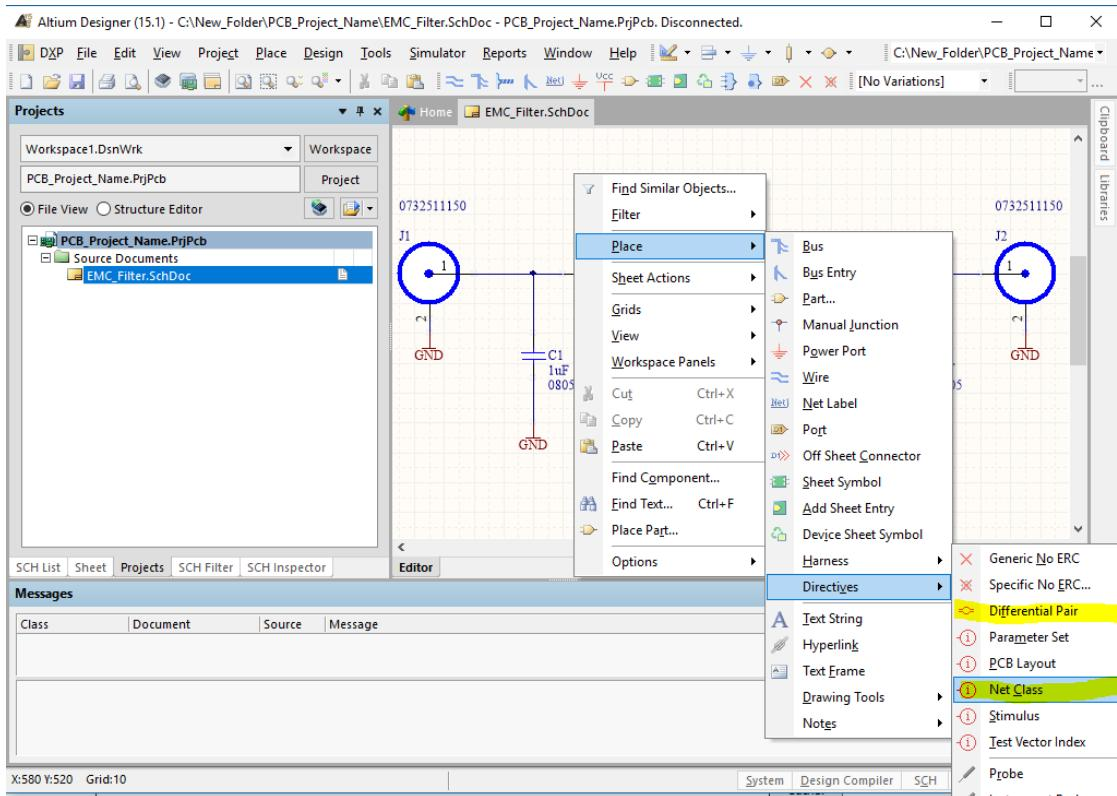
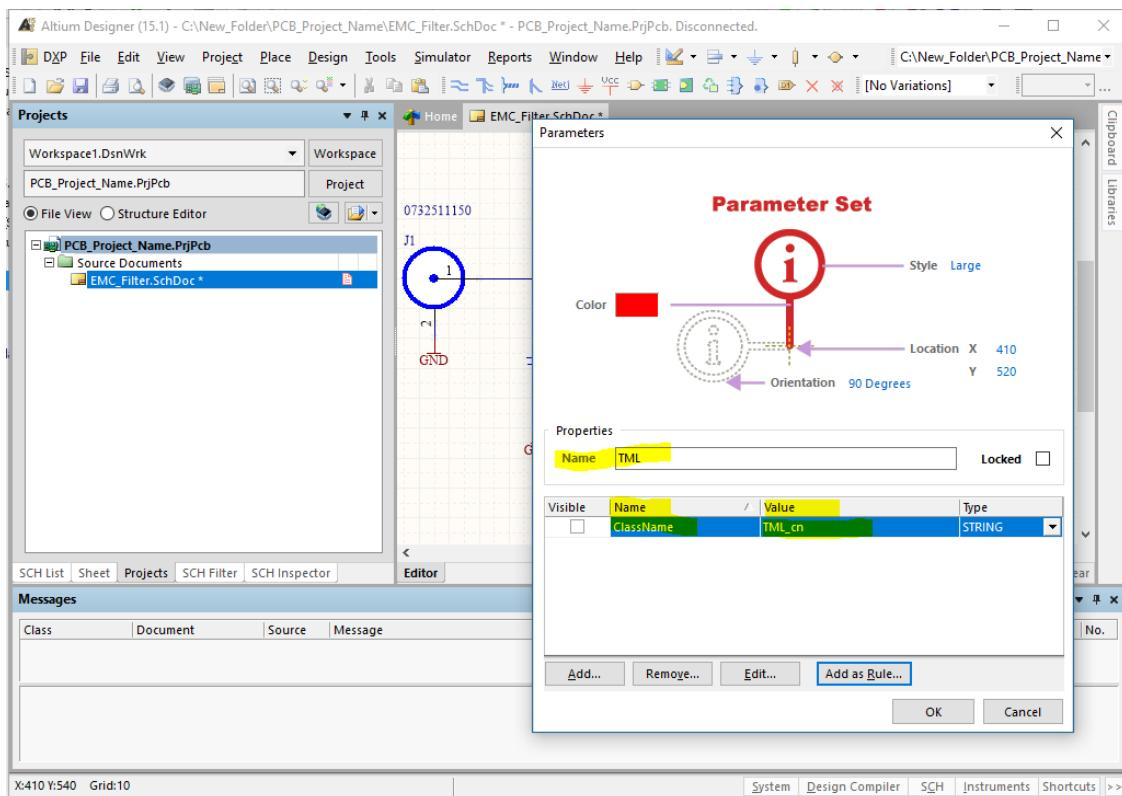
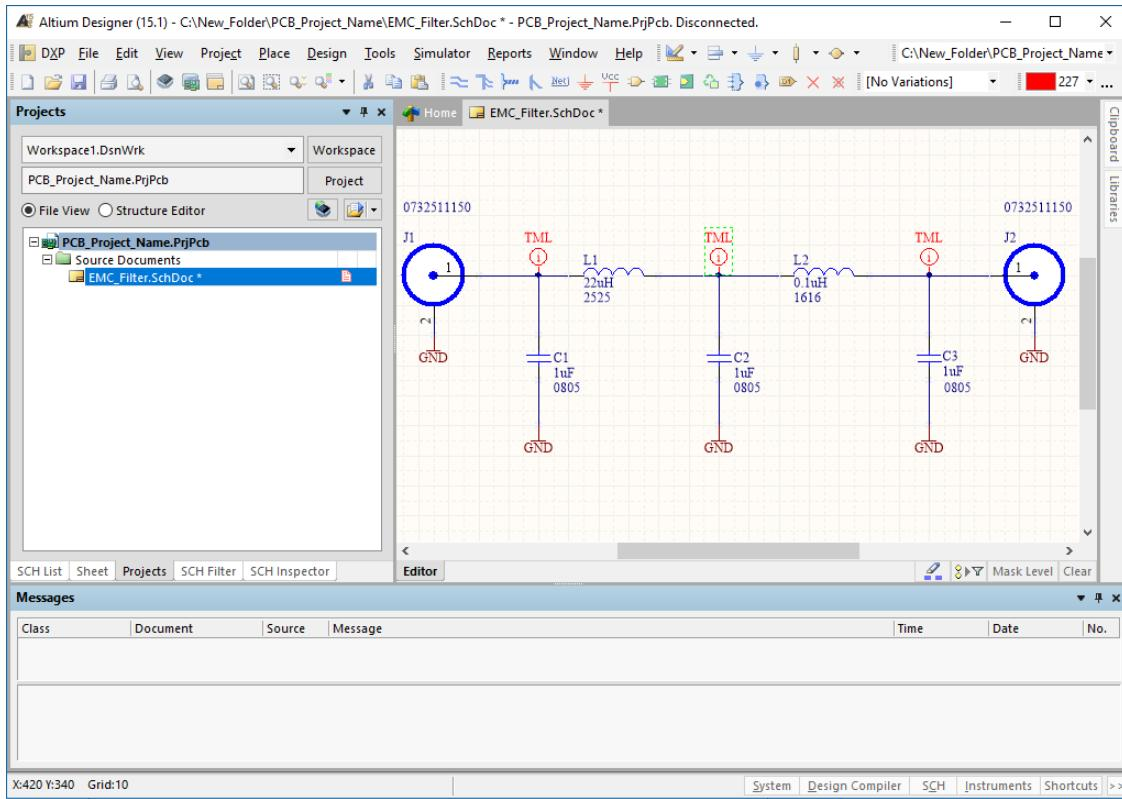

Figure 62: Altium Schematic Directives.
Figure 63: Altium Directives Net Class parameter dialog.
Figure 64: Altium Directives Net Class TML.
38. A wire is most of the time just a wire, but sometimes it serves a special purpose as example a RF transmission line or differential bus lines as commonly used for USB. Therefor, directives are used to define additional information for those wires most commonly used in form of a **Net Class**. Figure 62 shows how to select a **directive**. The most general is net class so chose **Net Class** and then press **TAB** to open the Parameters Dialog shown in Figure 63. The Parameters dialog shows under Properties Name the name which you see in the schematic. The **ClassName** under column Name is a **Altium specific identifier or key word** that has to be precious like that! under the column Value is the actual class name in this case **TML_cn** which stands for transmission line class name. The class name can be used to create rules for the assigned wires as example a 50Ohm impedance micro strip trace that needs a controlled width and distance to the objects in the PCB document. Class names are a general concept in Altium. Figure 64 shows the placed directives for the transmission line.